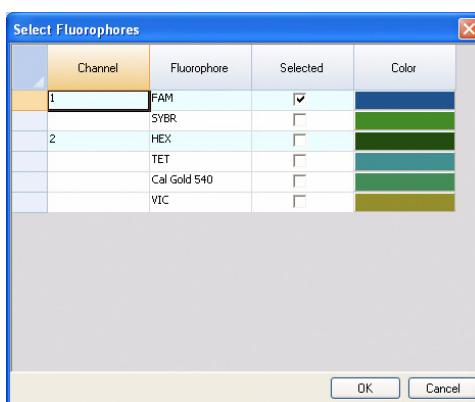

Figure 35. Select Fluorophores window.
- Click the **Selected** check box next to the fluorophore name to add or remove a fluorophore that appears in the list on the right side of the Plate Editor window (Figure 35).